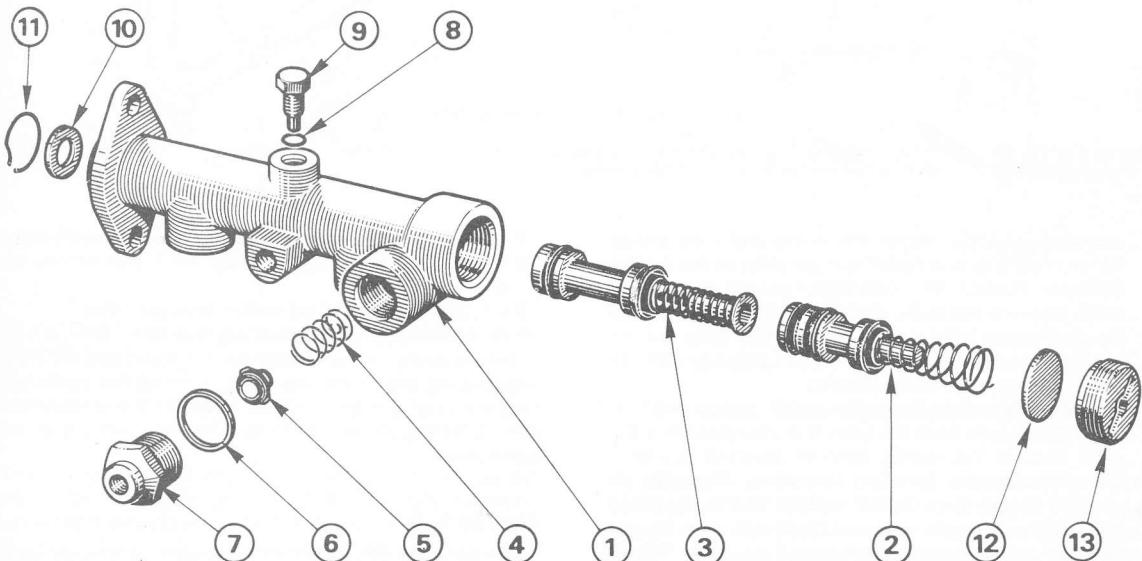

FIG 10:12a Tandem master cylinder fitted to some export vehicles
- 4 Release the locknuts and adjust both cables (see FIG 10:16), so that the clevis pins will engage their respective holes in the equalizer bar without altering the position of the bar, or imposing a strain on the cables. Tighten the locknuts and fit new splitpins in the clevis pins.